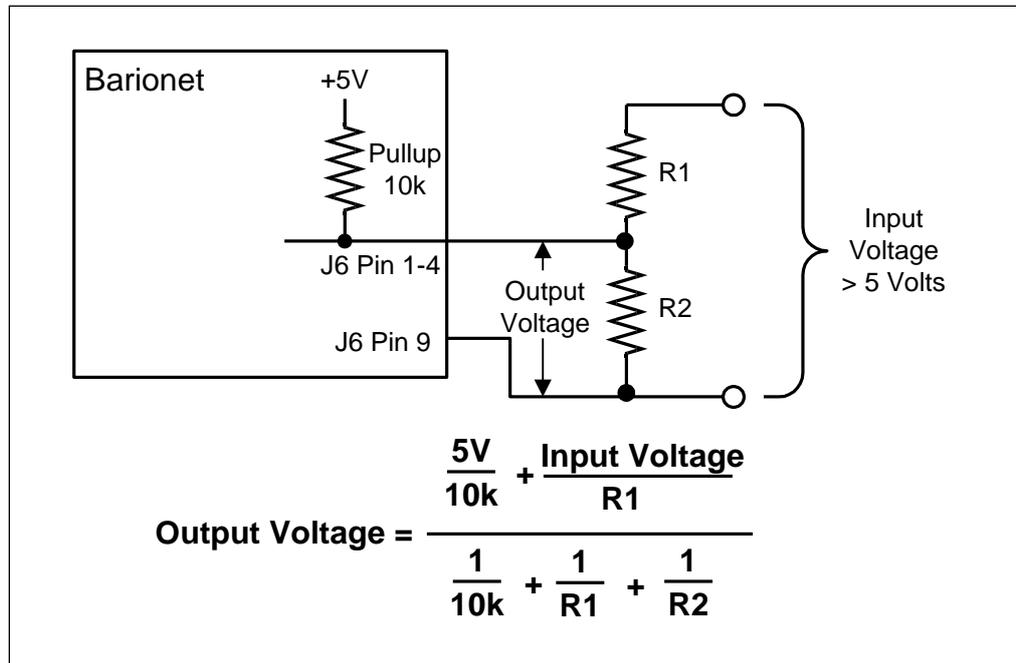

Figure 24. The effects of turning on the 10kΩ pull-up resistor on the voltage divider.
- If you decide to use a voltage divider on the input with the pull-up resistor turned on, the calculation for input voltage vs. output voltage is more complex, since you have to account for the pull-up resistor and the 5V power supply it is tied to. Figure 24 shows the equivalent schematic and the formula for calculating the effects of the voltage divider with the 10kΩ pull-up turned on.